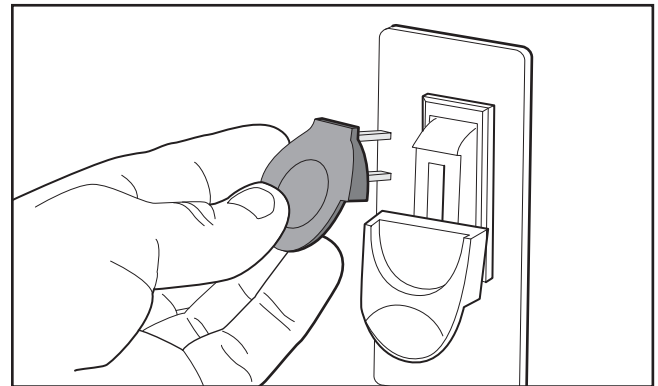

Figure 13. Removing switch key from paddle switch.
10. Remove switch disabling key, as shown in **Figure 13**.